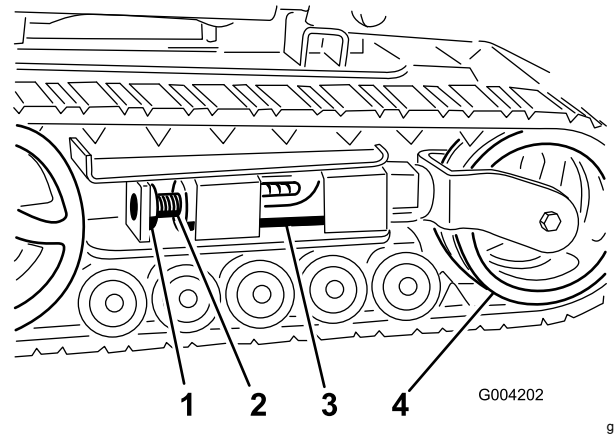
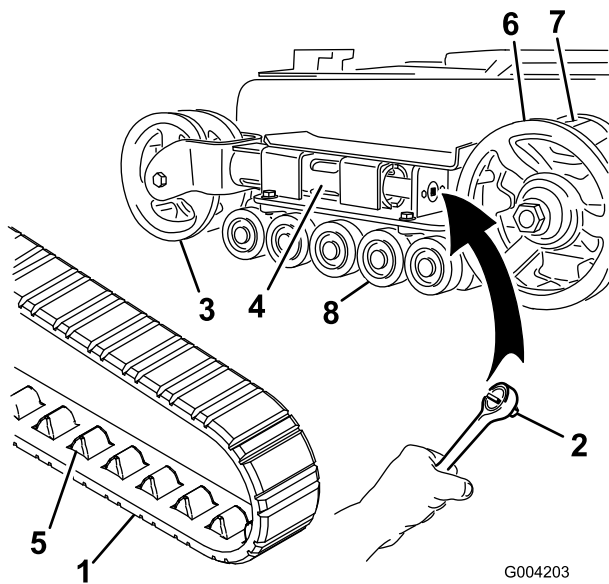
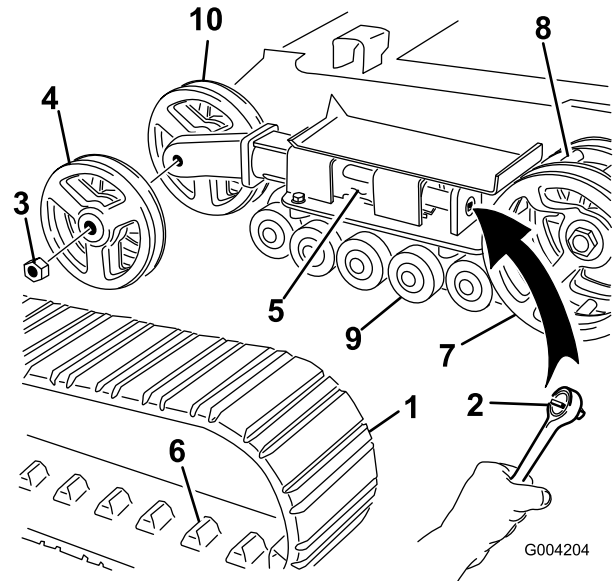

Figure 47
Figure 48
Figure 49
- Remove the locking bolt and nut (Figure 47).
- Align the closest notch in the tension screw to the locking bolt hole and secure the screw with the locking bolt and nut (Figure 47).
Note: You have narrow-width tracks if the front tension wheels are mounted inside a fork on the end of the tension tube (Figure 48).
- Using a 1/2-inch drive ratchet, release the drive tension by turning the tensioning screw clockwise (Figure 47 and Figure 48).
6. Push the tension wheel toward the rear of the unit to move the tension tube against the frame (Figure 48).
8. When the track is off the tension wheel, remove it from the drive sprocket and road wheels (Figure 48).
9. Beginning at the drive sprocket, coil the new track around the sprocket, ensuring that the lugs on the track fit between the cogs on the sprocket (Figure 48).
10. Push the track under and between the road wheels (Figure 48).
Note: You have wide-width tracks if the front tension wheels are mounted on the sides of the end of the tension tube (Figure 49).
4. Remove the locking bolt and nut (Figure 47).
5. Using a 1/2-inch drive ratchet, release the drive tension by turning the tensioning screw clockwise (Figure 47 and Figure 49).
6. Push the tension wheel toward the rear of the unit to move the tension tube against the frame (Figure 49).
7. Remove the nut securing the outer tension wheel and remove the wheel (Figure 49).
8. Remove the track (Figure 49).
9. Remove the nut securing the inner tension wheel and remove the wheel (Figure 49).
13. Install the inner tension wheel and secure it with the nut removed previously (Figure 49).
15. Install the new track, ensuring that the lugs in the track fit between the cogs in the middle of the drive sprocket (Figure 49).
16. Install the outer tension wheel and secure it with the nut removed previously (Figure 49).
6. Place the greased road wheel cap over the bolt head (Figure 48).
7. Secure the road wheel cap with the snap ring (Figure 48).